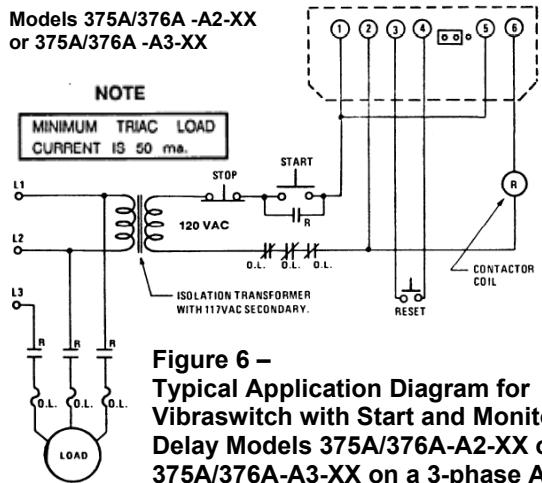

Figure 6 –
Figures 5, 6, and 7 show some typical applications of the various models of the Vibraswitch. In figures 6 and 7, the circuits shown use relay (R) to provide the contacts for the load. When the Vibraswitch “trips”, relay (R) will open to shut down the load.
NOTE: In figure 6 the jumper plug is connected to the N.C. position.